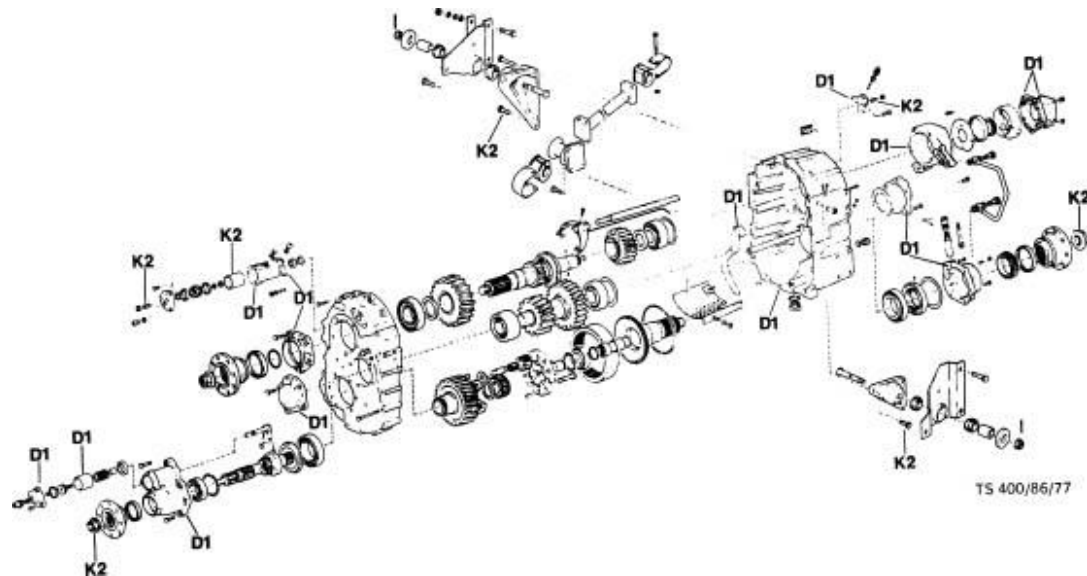

Fig. 5-27
- ③ For positions where sealing compound and adhesive agent are used during repair of VG1200 transfer case, refer to Fig. 5-27. In the diagram, D is Loctite 510 plane sealing compound, K 2 is Loctite 242 thread-locking adhesive.